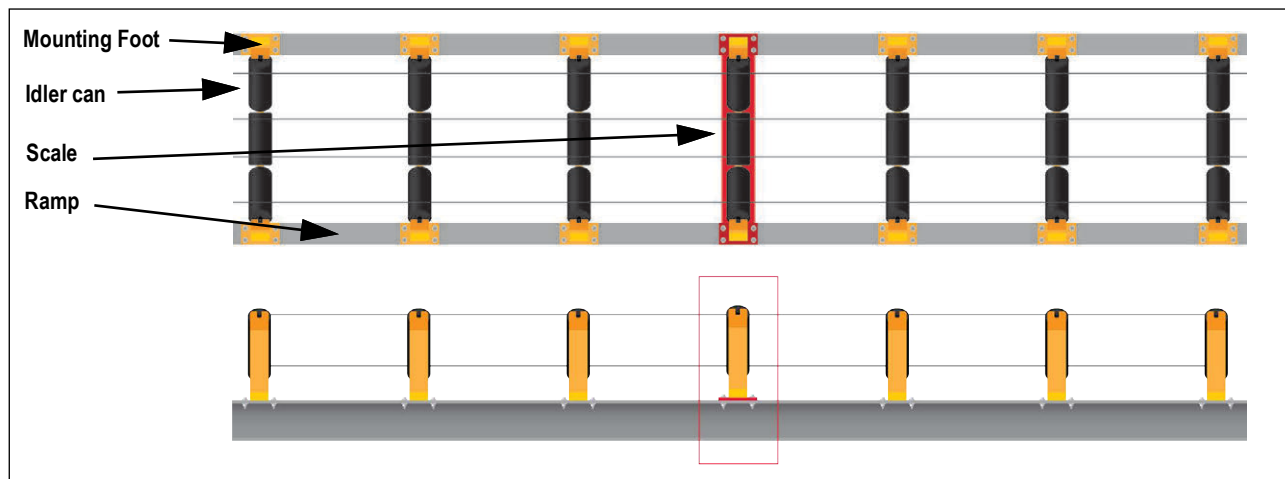
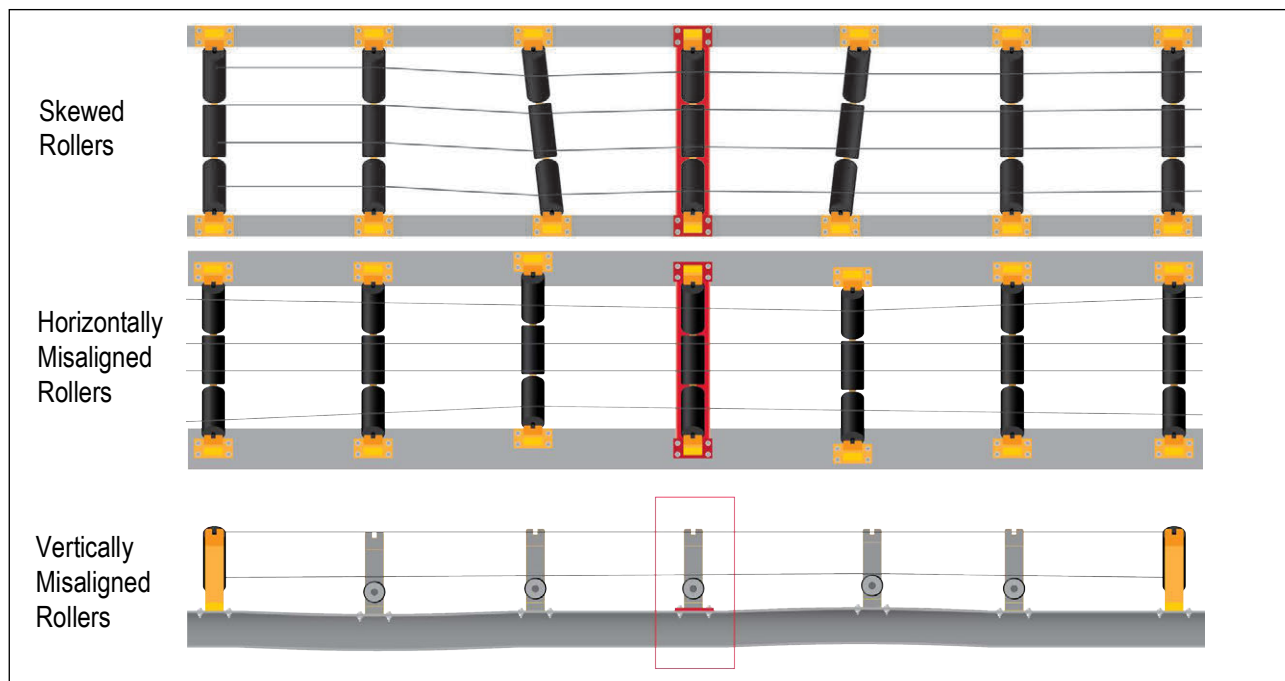

Figure 2-1. Aligned Idlers (top and side views)
Figure 2-2. Misaligned Idlers (top and side views)
**IMPORTANT:** String should be a taught line from one end of the alignment zone to the other. The string should touch each of the cans without gaps or deflection (see Figure 2-2). If there are gaps or deflection, adjust the idlers to align as in Figure 2-1. The difference in height between idlers cannot be greater than 1/16 inch.